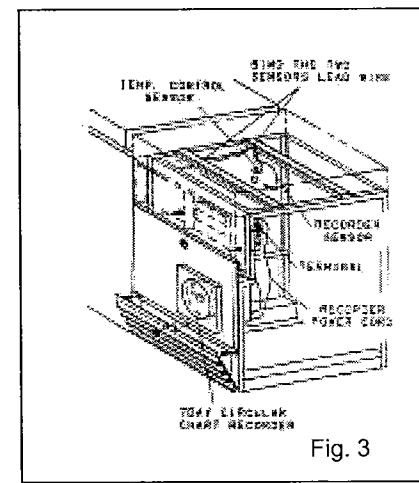

Fig. 3
7. Replace the control panel with the recorder attached and fix the panel with screws. (Fig. 3)